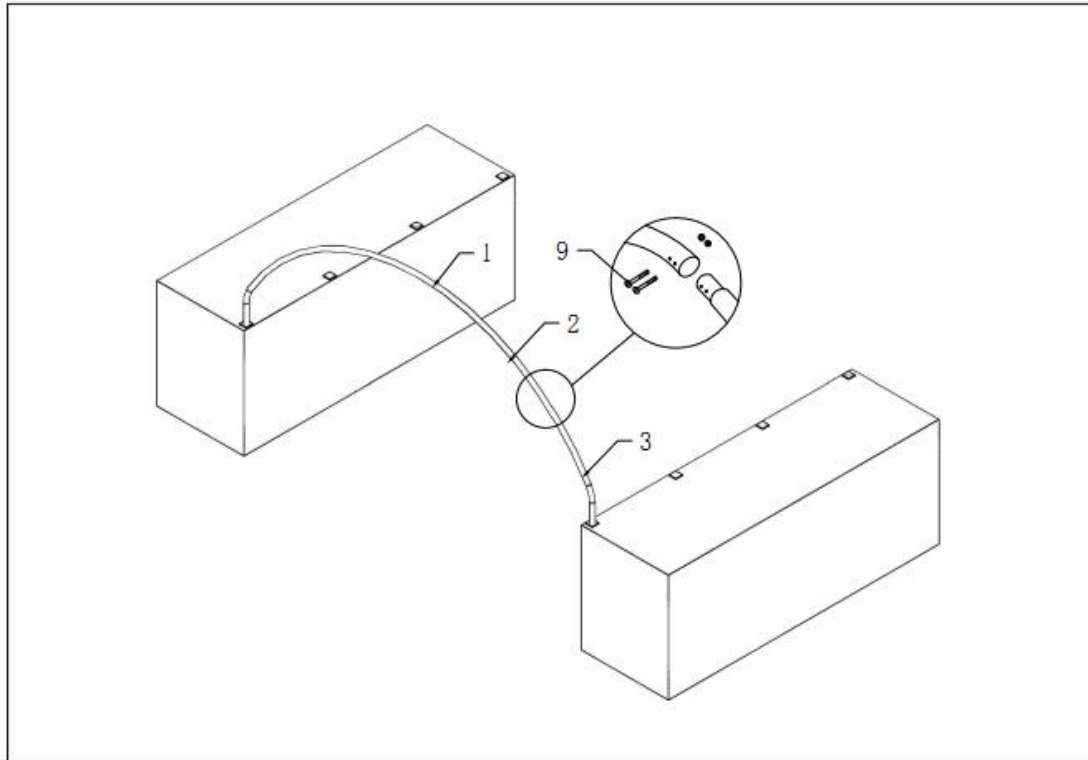

Figure 2
Please refer to the diagram(**Figure 2**) to install the frame.
1. As **Figure 2** shown find Top bent tube (part code 1), Middle bent tube (part code 2) and Sidewall bent tubes (part code 3). To connect them by Screw M8x70 (part code 9), which makes one group of arches. Please NOTE the direction of the screw. DO NOT install the screws on the top of the truss where the fabric will rest.